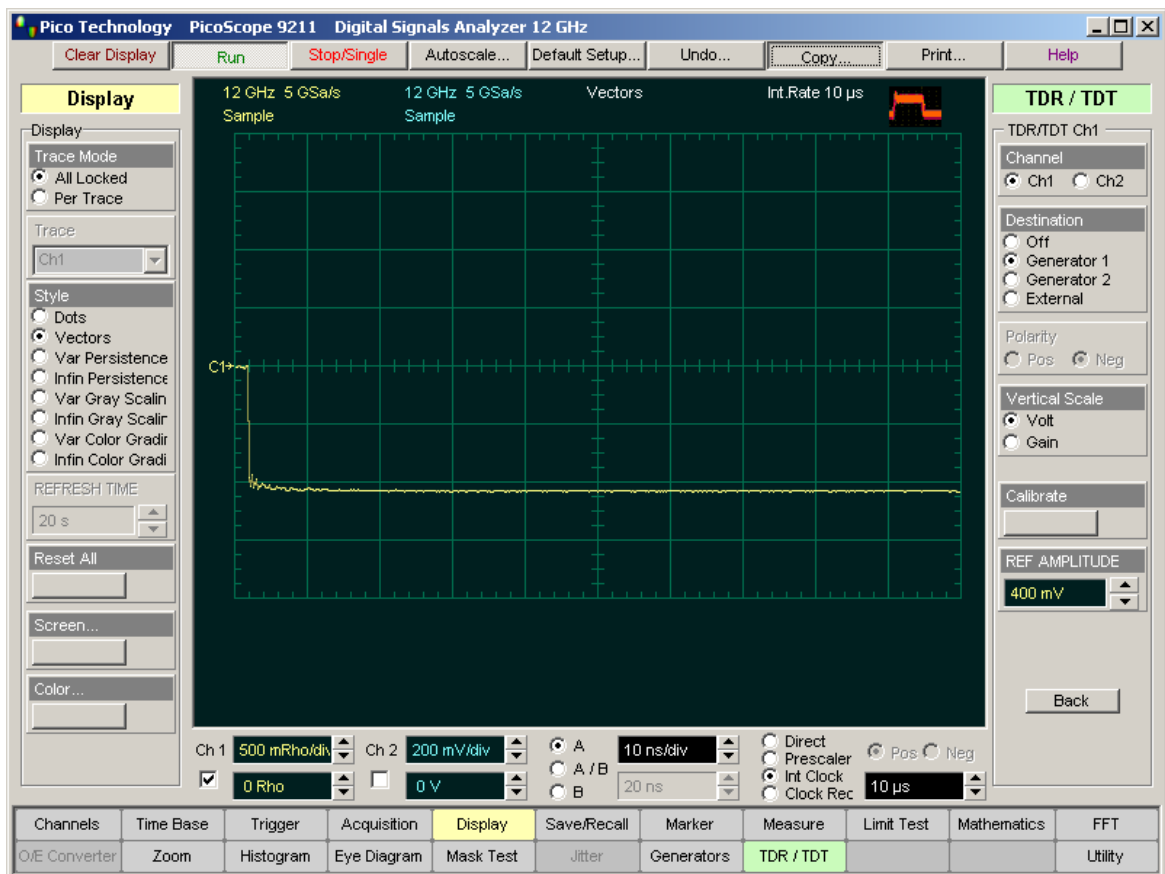

Figure 2
8. Click Generator 1 in the Destination menu. See Figure 2.